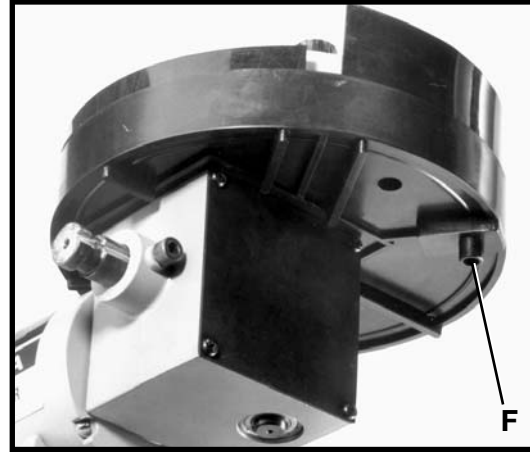

Fig. 20
4. A drain (F) Fig. 20, is provided underneath the grinding wheel housing to dispose of water. Place a can or suitable container underneath the drain (F).